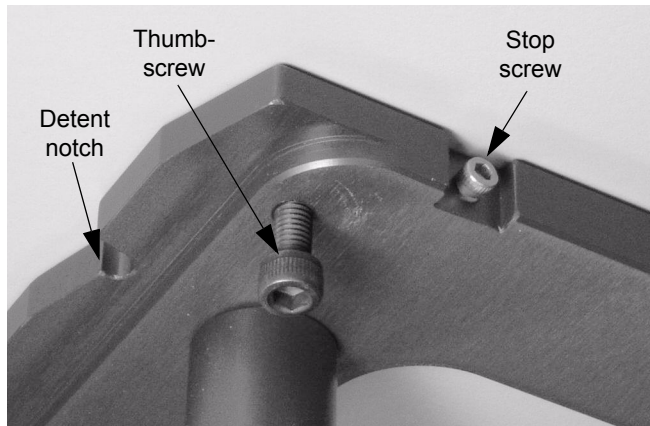

Figure 3. Adjusting screws at back of Siemens block tray
- 2** If the detent fit is loose, unscrew the two stop screws (Figure 3) outward an equal dimension until a tight fit is achieved.
- 3** Screw in the two thumbscrews (Figure 3) at the rear of the assembly until they contact the accessory tray above the tray block. Tighten firmly by hand without tools. These screws help support the IMF and prevent sag due to shortness of some accessory holder slots.